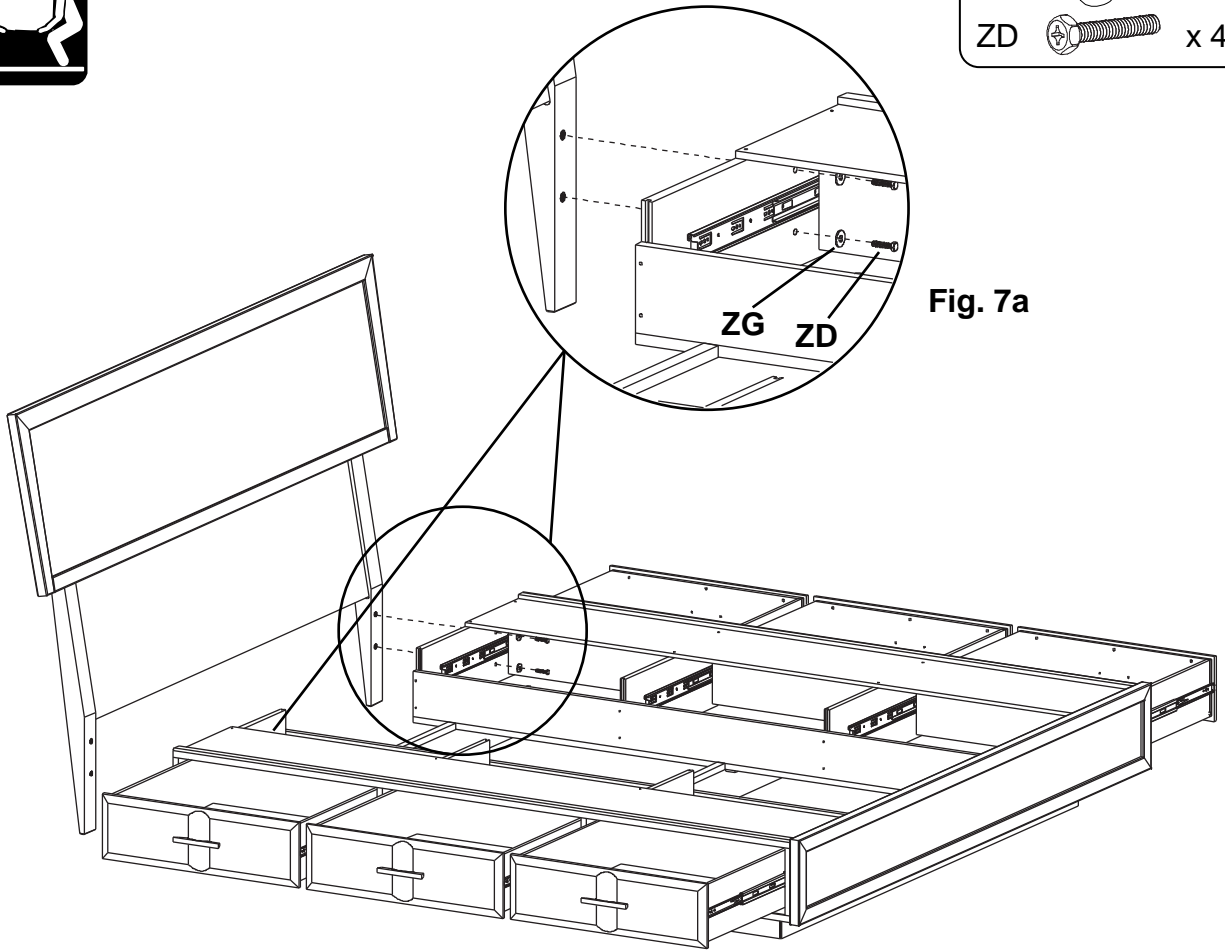

Fig. 7
7. Attach the Headboard (A) with Hex Bolts (ZD) and Washers (ZG). See Figures 7 and 7a.